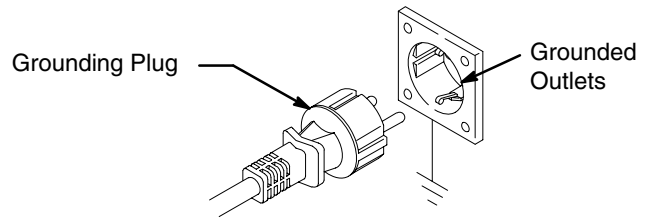

Fig. 2
1. Sprayers require a 220–240 Vac, 50 Hz, 10A circuit with a grounding receptacle. See Fig. 2.